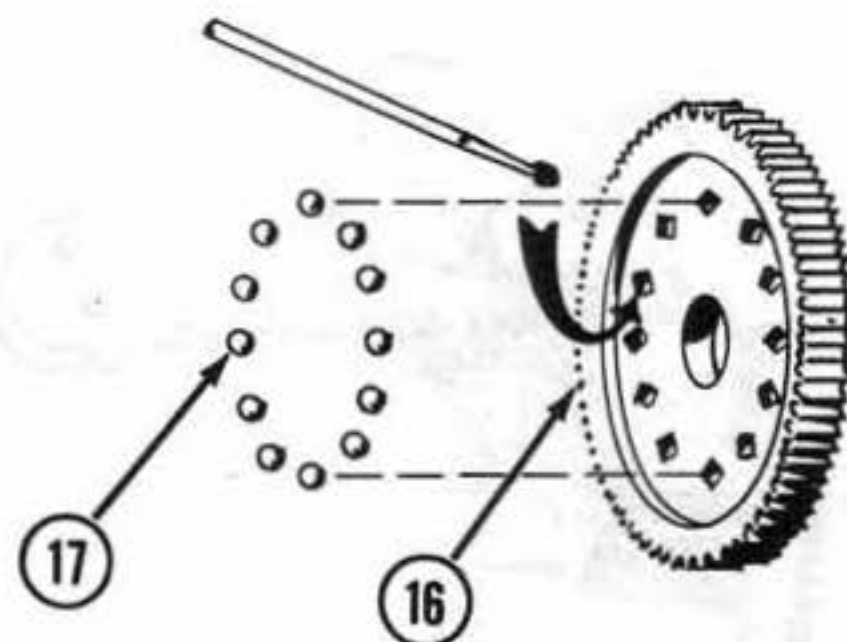

FIG. 8
2. Locate small white grease container (15) and open.
3. Locate differential gear (16) from small bag. Fig.8
4. Using small instrument such as a toothpick or precision screwdriver, carefully dab a minute amount of grease into each bearing hole of the gear. Keep grease away from gear teeth. Fig.8
5. Press small ball bearings (17) into greased holes of differential gear (16). Fig.8